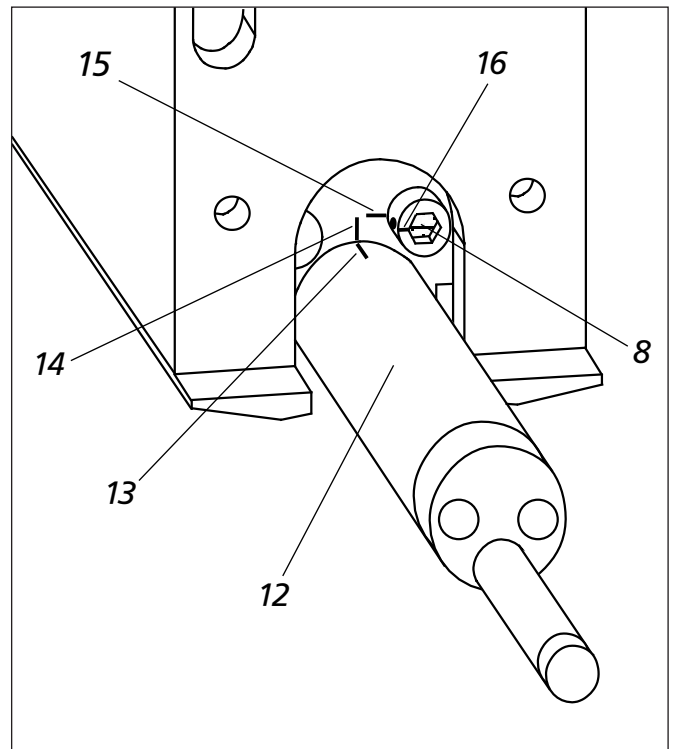

Fig. 3
2. Release the probe (see Fig. 3):